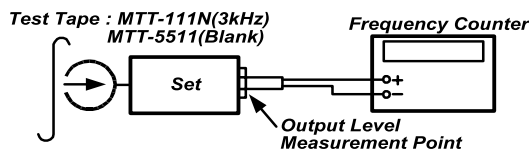

FIG. 1 : Tape Speed & Record Bias Oscillator Frequency Adjust Circuit
13. Outdoor Antenna Grounding - If an outside antenna is connected to the receiver be sure the antenna system is grounded so as to provide some protection against voltage surges and built-up static charges. Article 810 of the National Electrical Code, ANSI/NFPA 70, provides information with regard to proper grounding of the mast and supporting structure, grounding of the lead-in wire to an antenna-discharge unit, size of grounding conductors, location of antenna-discharge unit, connection to grounding electrodes and requirements for the grounding electrode. See Figure 1.